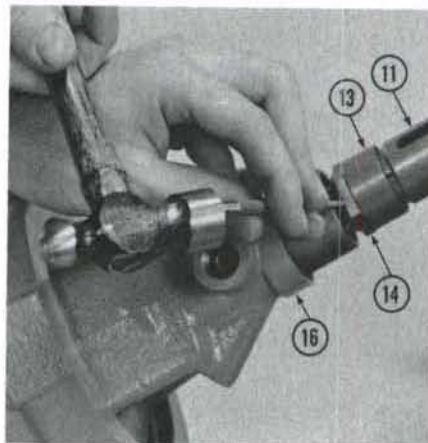

Fig. 11—After installing steering shaft on Hydramotor actuator shaft, stake hex nut to slot in steering (11) with center punch.
Reassemble the unit before reinstalling on actuator shaft as follows: Install tapered ring (13) on outer shaft (11), with large I.D. first. Install a new nut (14) just far enough to catch one or two threads of outer shaft. Engage splines of outer shaft on splines of actuator shaft. Align hole in tapered ring, hole in outer shaft and groove around the actuator shaft, then drop locking ball in hole and groove and turn tapered collar ¼-turn. Tighten the hex nut to a torque of 40-50 ft.-lbs. and stake nut into slot in outer shaft as shown in Fig. 11.